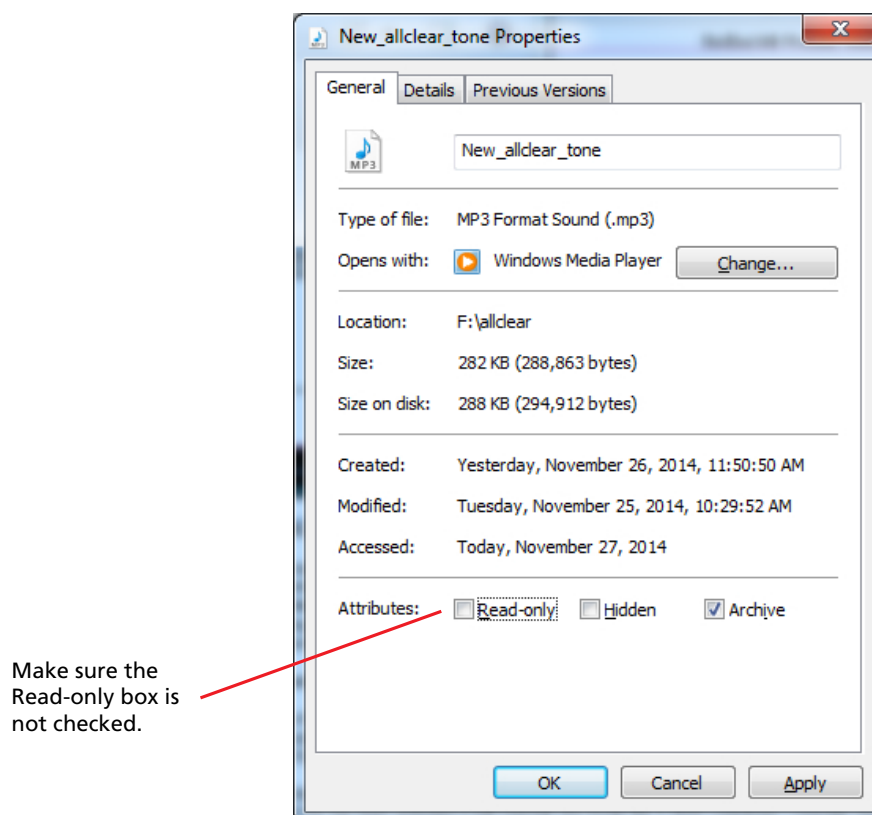

Fig 3.4f
- The properties will then come up as shown in Fig 3.4f. Make sure the Read-only check box is not checked.